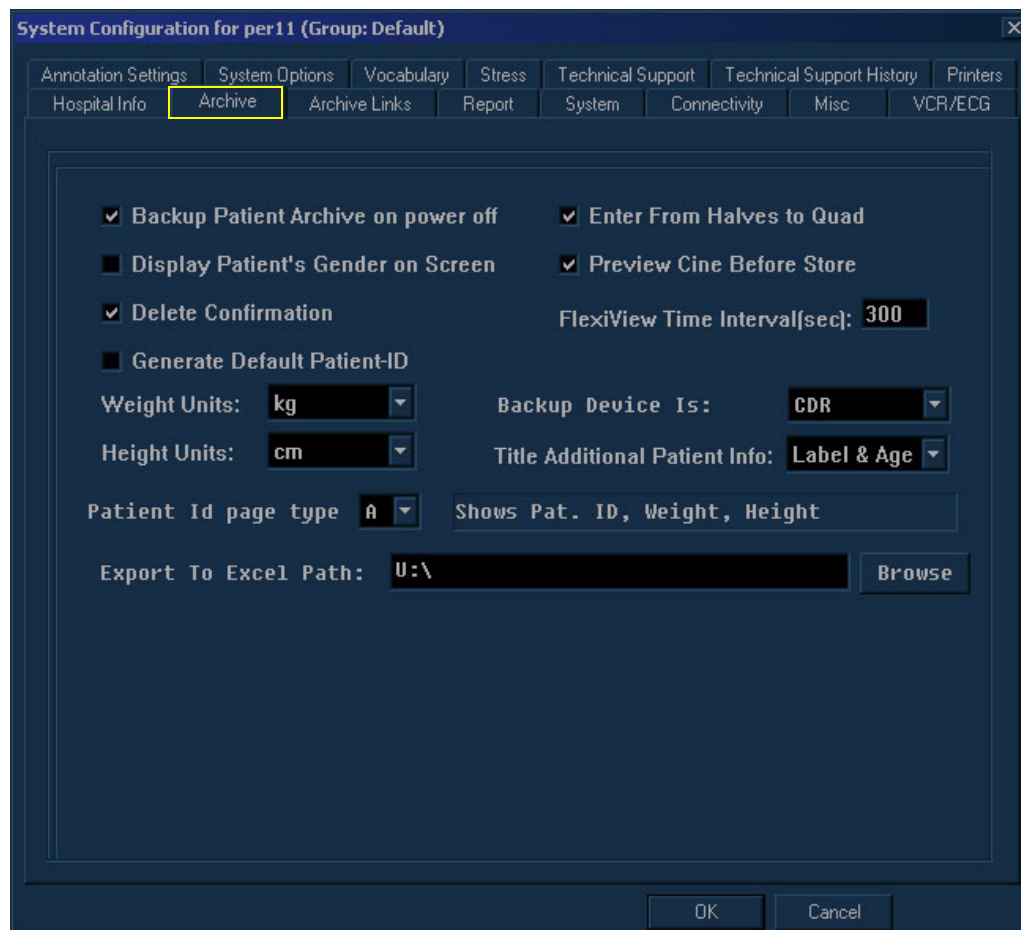

Figure 3-24 Archive Tab
- When the FlexiView option is installed the time period (in seconds) after which a cineloop is automatically stored in the archive without interrupting the user's monitoring must be set in the **FlexiView Time Interval[sec]** field. Figure 3-24 on page 3-38 indicates the recommended default factory setup.